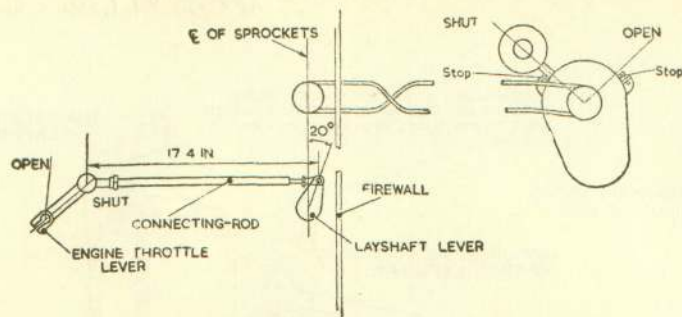

Fig. 6. Throttle control setting
**Setting the controls (fig. 6, 7, and 8)**
**Throttle (fig. 6)**
12. (1) Set the cabin control lever in mid-position.